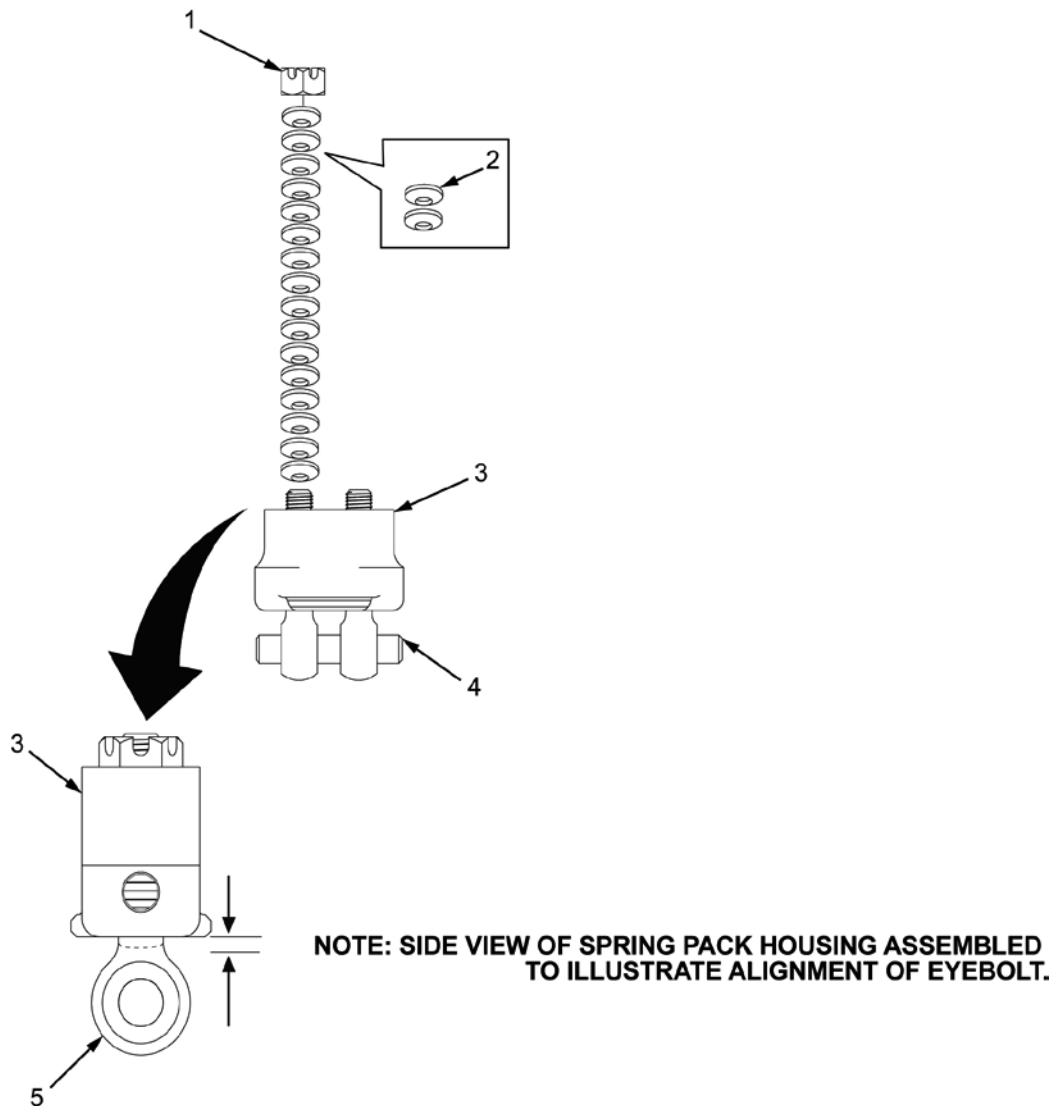

Figure 12. Installation of Spring Washer Assembly.
20. Temporarily install headless straight pin (Figure 12, Item 4) through eyebolts of belleville housing (Figure 12, Item 3).
21. Install spring tension washer set (Figure 12, Item 2), ensuring that washers are installed convex surface to concave surface.
22. Install slotted nut (Figure 12, Item 1) to retain washers (Figure 12, Item 2). While holding belleville housing (Figure 12, Item 3), turn nut until mark on eyebolt (Figure 12, Item 5) is aligned to top of spring housing as shown in Figure 12.